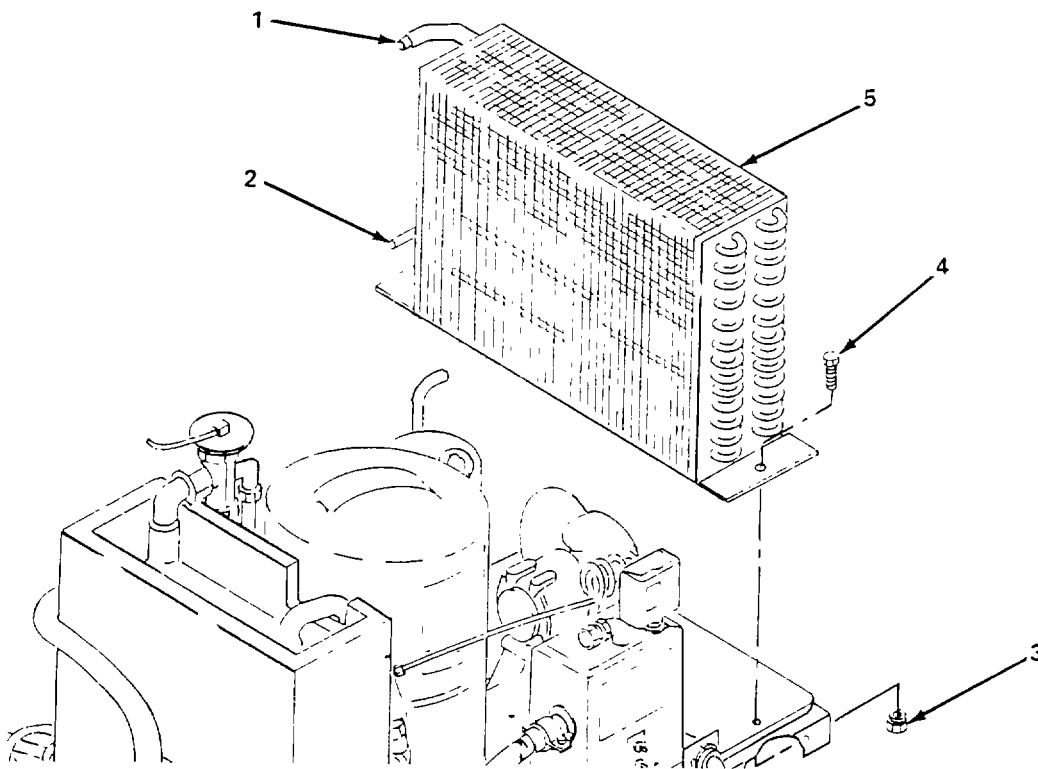

Figure 6-21. Condensing Unit Hermetic Condenser, Replace.
(2) *Replace condenser.* (figure 6-21).
- (c) Desolder tube discharge connector (1) and liquid tube (2).
- (d) Remove two self-lock nuts (3), bolts (4) and remove condenser (5).
- (e) Install condenser (5) and secure with two bolts (4) and self-locking nuts (3).
- (f) Solder liquid tube (2) and tube discharge connector (1) to condenser (5).